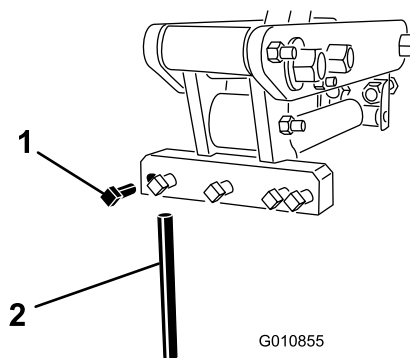

Figure 24
3. Loosen the clamping bolts and remove the previously used tines (Figure 24).